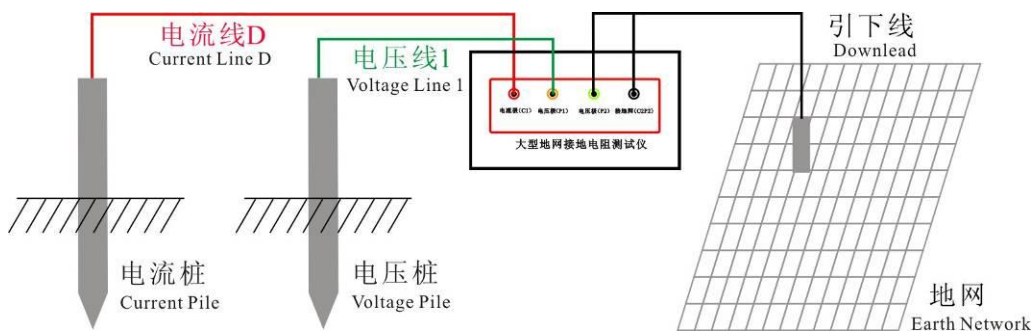

Fig. 3 Diagram of Measurement Wiring with Three-Electrode Method
- (iii) Connect one end of current testing line and voltage testing line and let out parallelly according to specification, the other end is respectively connected two earth pile (as shown in Fig. 3).